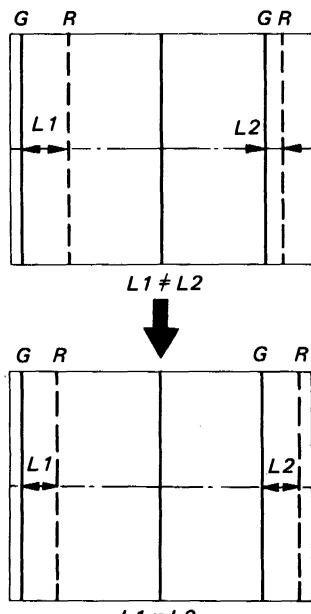

Fig. 3-52
- (6) Adjust RV5504 (H SIZE (R)) so that "L1" is equal to "L2" in the middle of screen as shown in Fig. 3-52.